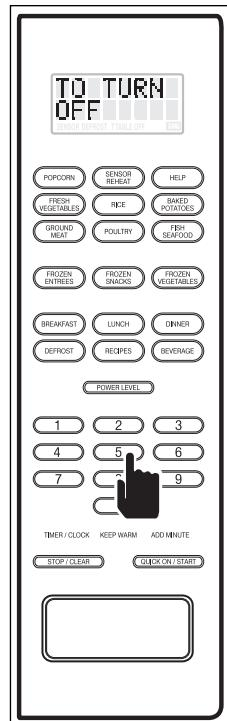

Figure 3-22.
2. Press the number 5 key and "TO TURN OFF - CLOCK DISPLAY - PRESS CLEAR" will flash on the digital display (See Figure 3-22).